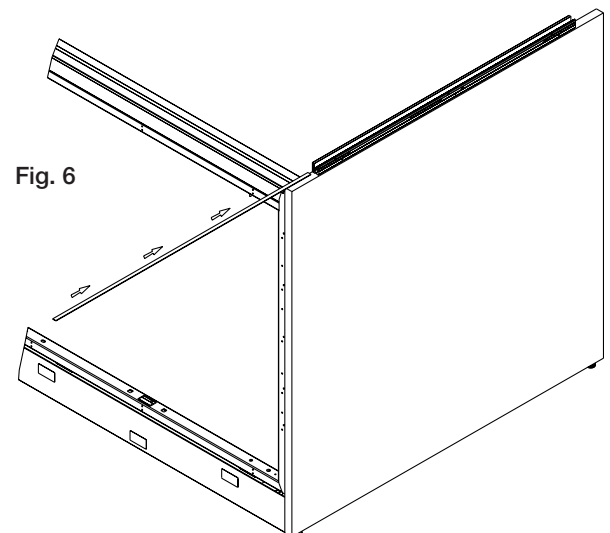

Fig. 6
6. Insert the plastic bottom spacer (approximately 1/2" by 1/16" thick) into the channel and make sure that it is centered end to end. If the set screws are protruding into the channel opening back the set screws out until the tips are out of the channel. **(Fig. 6)**